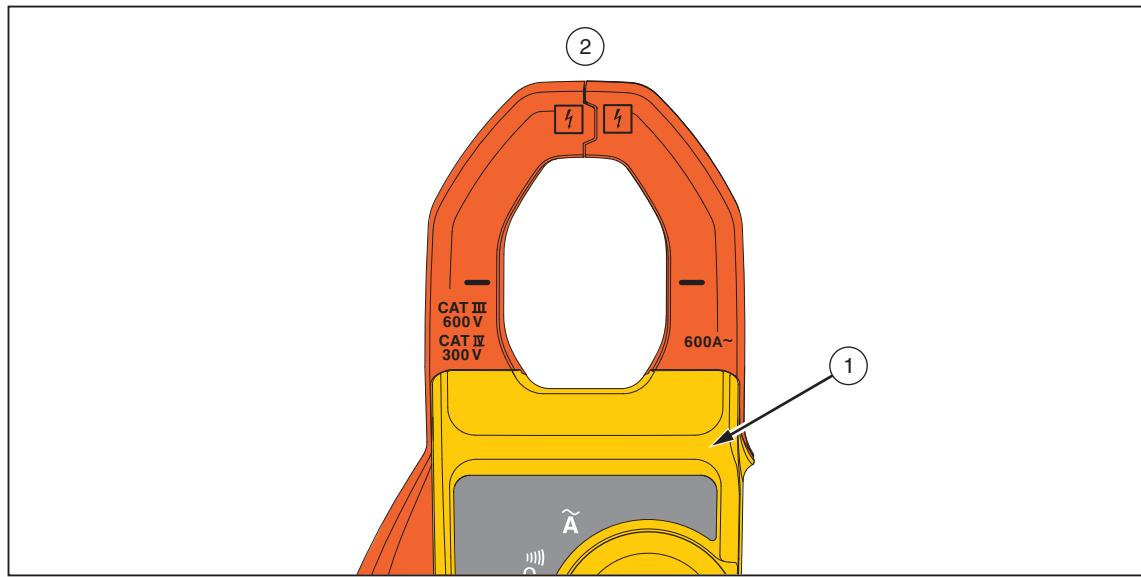

Figure 1. Clamp Jaw (303 is Shown)
- **Hold the Product behind the tactile barrier. See The Clamp Meter. See Figure 1, item ①.**
- Before each use, examine the Product. Look for cracks or missing pieces of the clamp housing. Also look for loose or weakened components. Carefully examine the insulation around the jaws. See Figure 1, item ②.